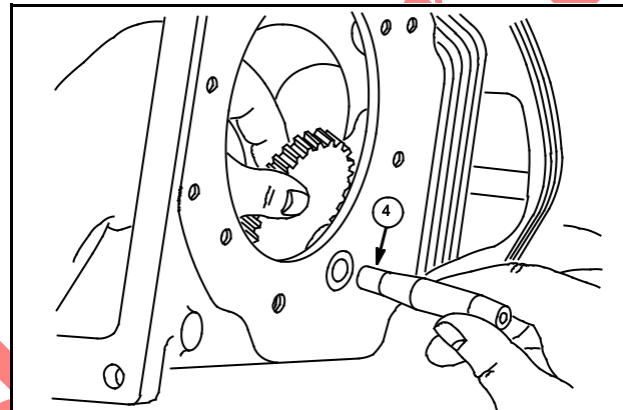

Fig. 19
3. Slide cam gear shaft (4) through PTO side and into cam gear, Fig. 19.